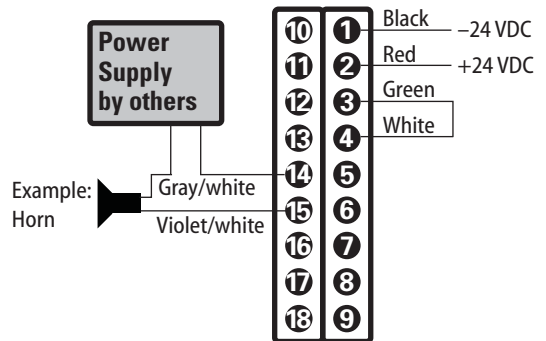

Figure 11 Connecting an alarm relay sounder
- Connect the GRAY/WHITE and VIOLET/WHITE wires to an indicator (such as a horn) as shown in Figure 11.